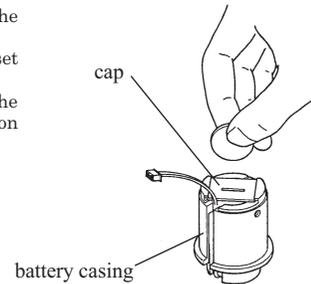

Fig3. Removing the battery cap
- 4) Turn the plastic cap on the battery casing with a coin or similar object to remove the battery from its plastic casing. (Fig3.) (Fig4.)